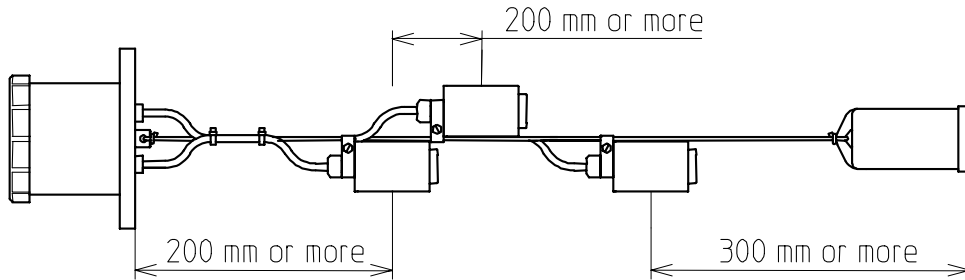

Fig. 9
- ② Keep the following length. (Refer to Fig. 9)